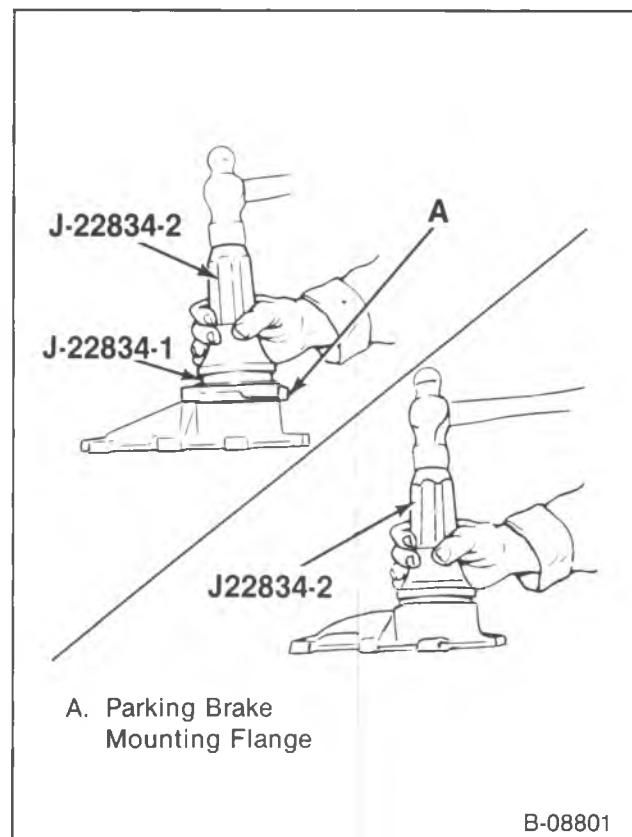

Figure 48—Installing the Rear Bearing Retainer Oil Seal
1. Locking compound on the outside of a new seal (222).
2. New seal, using J-22834-2 (figure 48).